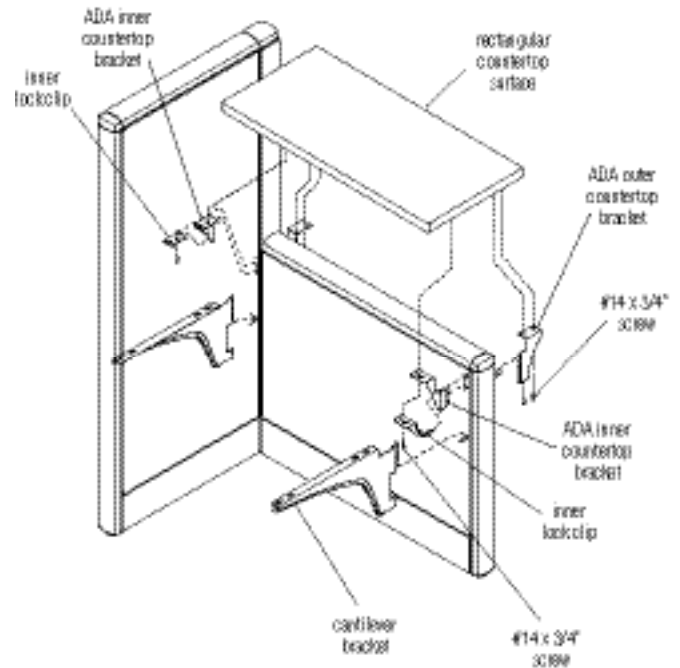

Figure 1
1. Begin countertop assembly at the aisle side, or outside of the workstation. For countertops installed onto a 30" panel, two ADA outer countertop brackets are required, one left-, and one right-hand. Mount the appropriate ADA outer countertop brackets into the slots in the posts so the mounting flanges are 1/8" higher than the panel top caps. The right- and left-hand brackets will be different. Notice that the mounting flanges of the two outside brackets face inward as installed to the panel (Figure 1).